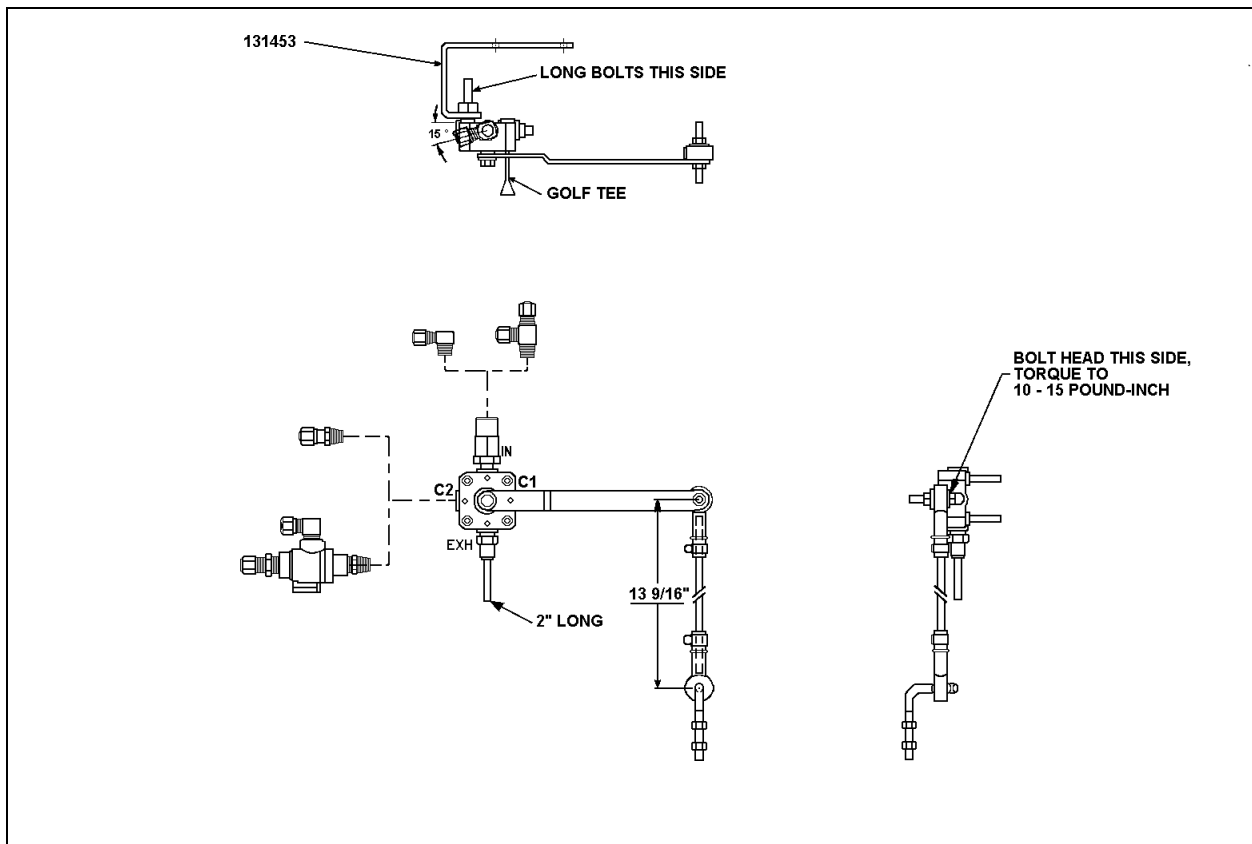

FIGURE 7: INSTALLATION OF BARKSDALE REAR RIGHT HEIGHT CONTROL VALVE
6. Dismantle the valve, discard Neway valve but retain the couplings. Remove the restrictions from inside the couplings, discard restrictions. Clean the couplings and apply Teflon sealant paste over the threads. Install a check valve (Prévost #640135) on the inlet coupling of the valve. Do not use a vise to secure the valve body when reinstalling the couplings, mount nuts on the studs and clamp the nuts in the vise. Avoid overtorquing couplings, handtighten only then rotate $1\frac{1}{2}$ turn then position coupling to the required angle. Turn valve lever three times in each direction to settle it. Install coupling (Prévost #641332) with the flexible hose (Prévost #503402) on the exhaust port (refer to fig. 7).
8. Install rubber bushing (Prévost #630133) on the existing bent rod, insert new rod (Prévost #131447) in the rubber bushing then install second rubber bushing (Prévost #630117) on the rod. Secure using clamps (Prévost #504014) as shown on fig.7.